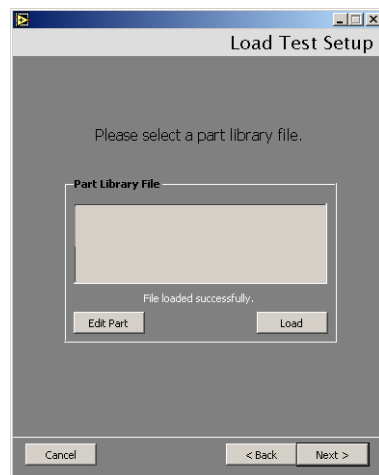

Figure 2-18 Load Test Setup
2. Click **Existing Part** and click **Load** and Figure 2-18 appears.
4. Navigate to the required directory and select a file and click **Load**. Figure 2-18 reappears with the file name and path populated into the *Part Library File* field.